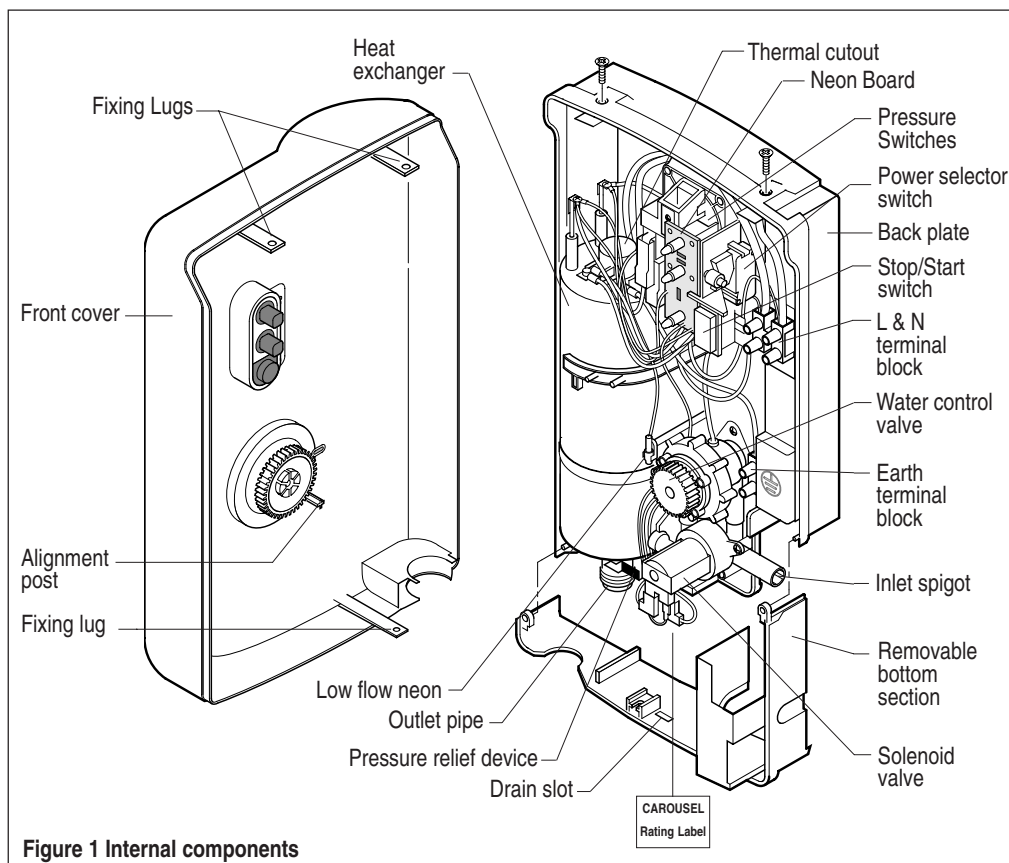

Figure 1 Internal components
2.10 IT IS IMPORTANT TO CLEAN THE SPRAY PLATE REGULARLY, particularly in hard water areas, where this may be necessary as often as once a week. Failure to do so will affect the performance of the shower and in extreme cases may cause the pressure relief device (PRD) to operate - see Fig. 1 and Fault Finding (p15-17).